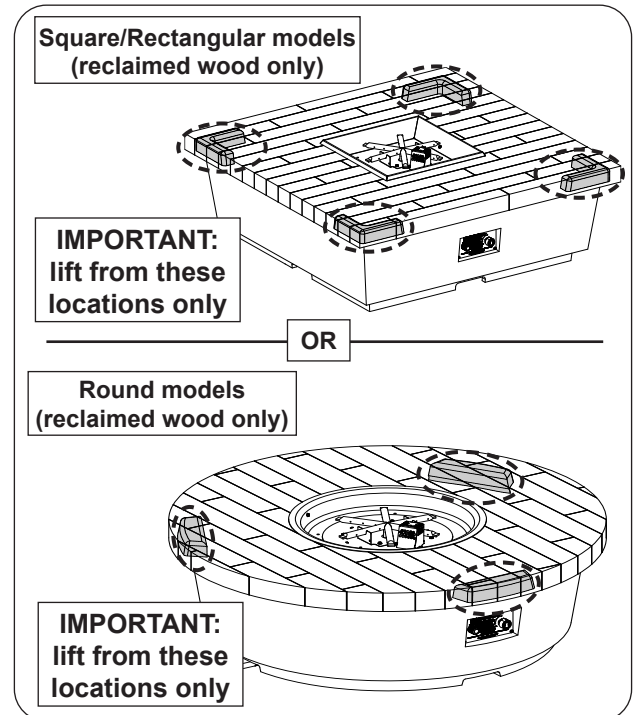

Fig. 29-2 Handling unit detail (if applicable)
**Important:** For reclaimed wood models, only lift the unit from the lift points (see Fig. 29-2). **DO NOT lift from the tabletop.**